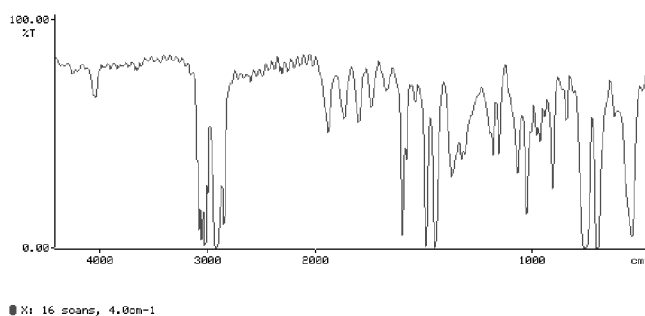
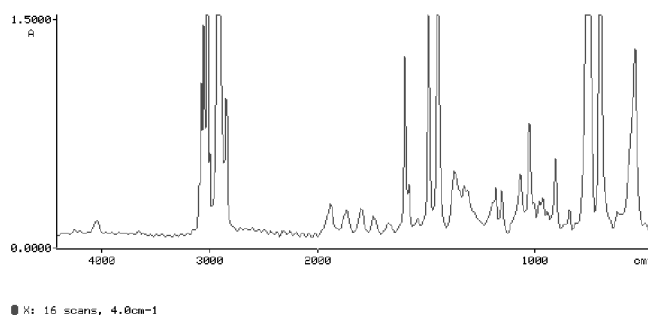

Figure 3-64 A Spectrum in the %T Ordinate Mode
Figure 3-65 The Spectrum from Figure 3-64 Displayed in Absorbance
Pressing **T/A** toggles the ordinate mode of displayed spectra between percent transmittance (%T) and absorbance (A) units; the display changes immediately. Figure 3-64 shows a spectrum in %T. Figure 3-65 shows the same spectrum after **T/A** was pressed.